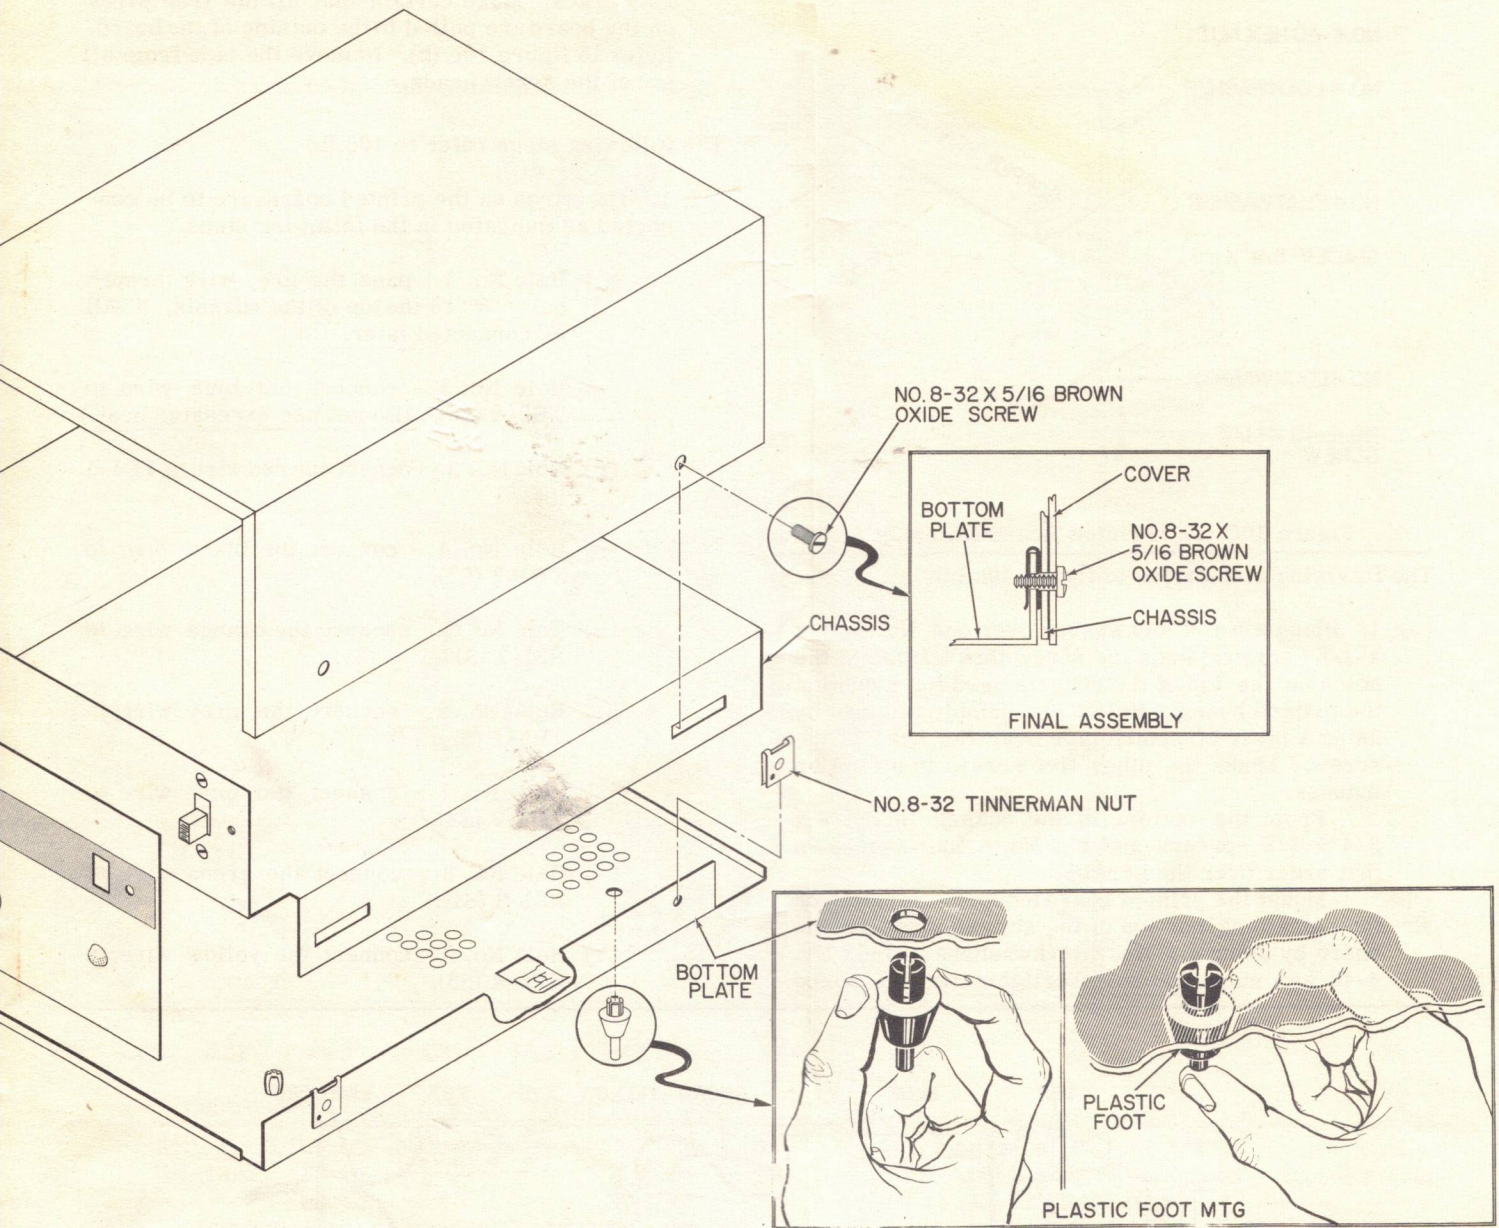

Figure 12C. Final Assembly
The following steps refer to figure 12C.
- (✓) 3. On two side flanges of the bottom plate there are four holes. Place a No. 8-32 Tinnerman nut on each of the four holes with the flat surface of the nut facing away from the bottom plate. There are two rectangular cutouts on the bottom surface of the bottom plate. Insert two No. 8-32 Tinnerman nuts into each of the cutouts with the flat surface of the nut facing away from the bottom plate. Note orientation of each Tinnerman nut as shown in figure 12c.